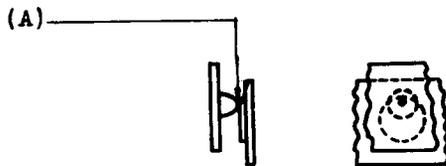

Fig. 1 - Contact Alignment
- 2.02 Contact Alignment - Fig. 1 (A): The contacts shall line up so that the contact point falls wholly within the boundary of the opposing contact disc at all times during contact. Gauge by eye.